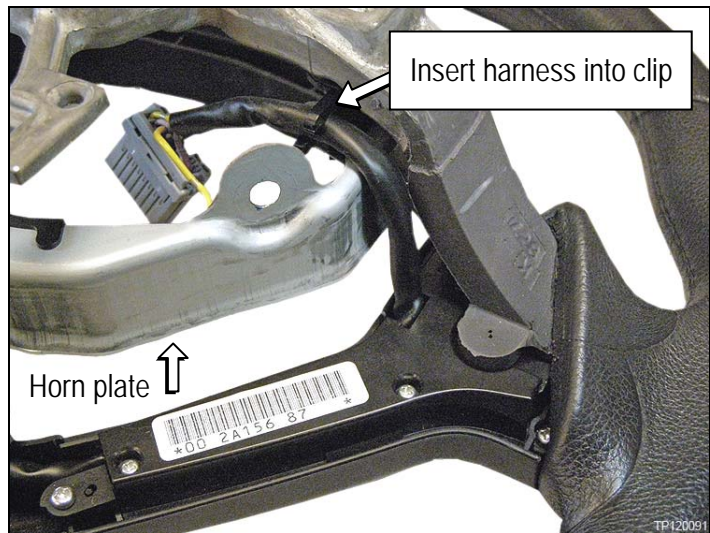

Figure 16
- c. Move the harness up and over into the horn plate as shown in Figure 16.